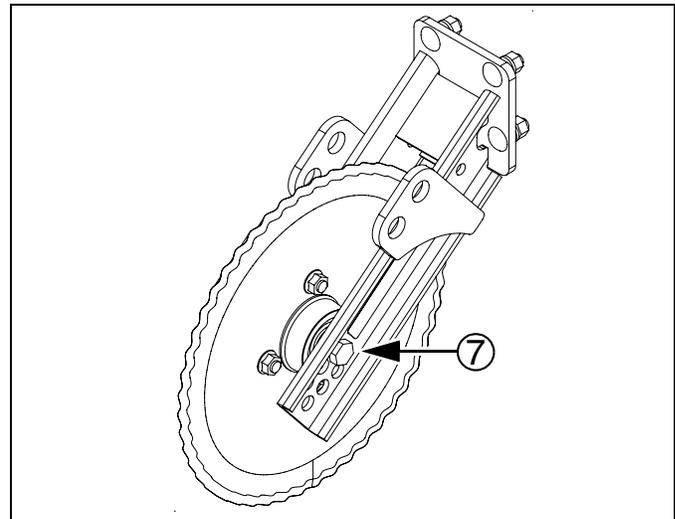
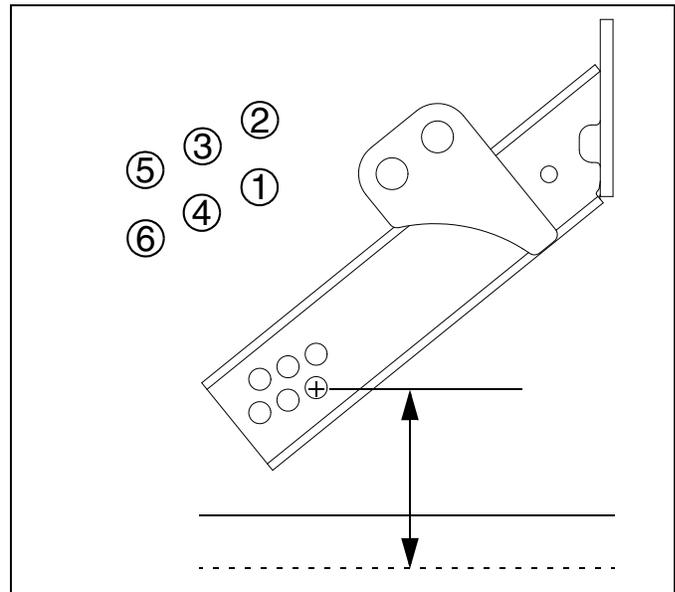

Figure 37
Figure 38
Refer to Figure 37 and Figure 38
4. Remove the 5/8-11 x 4 in bolt, lock washer and nut (7 in Figure 37).